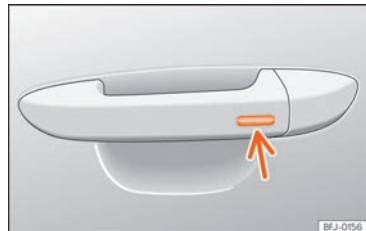

Fig. 112 Door handle: sensor surface.
• Press and hold the locking sensor surface »» Fig. 112 (arrow) on the door handle to close the sunroof. If you release the sensor surface, the closing movement stops.